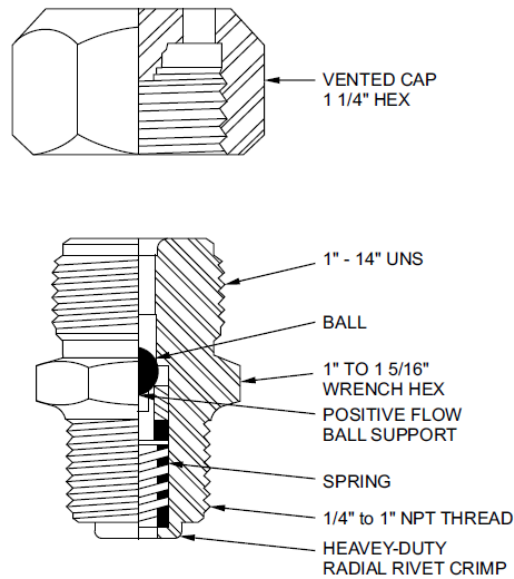

Figure 5 - Grease Fitting
1. Carefully remove the vented safety cap of the lower drain grease fitting, Figure 5. Contact your local Cameron Valves & Measurement service representative for further assistance, if needed.